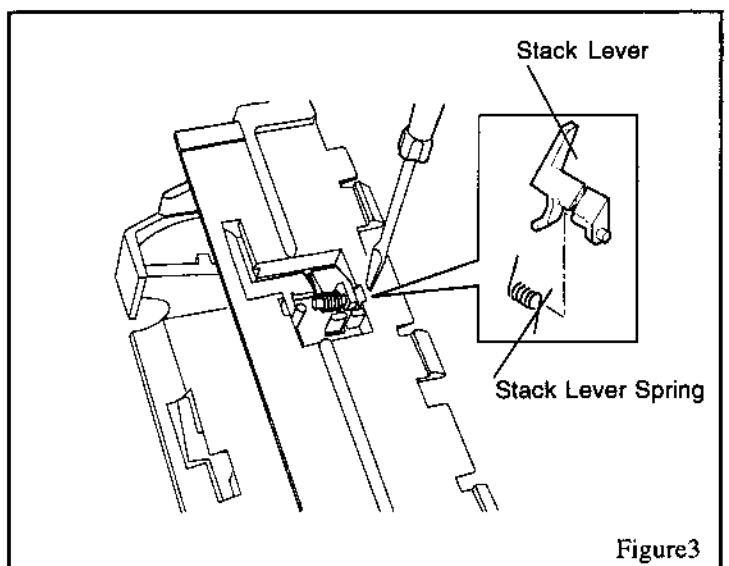

Figure 3
1. Unhook the latch shown in Figure 3 with a flat-head screwdriver.